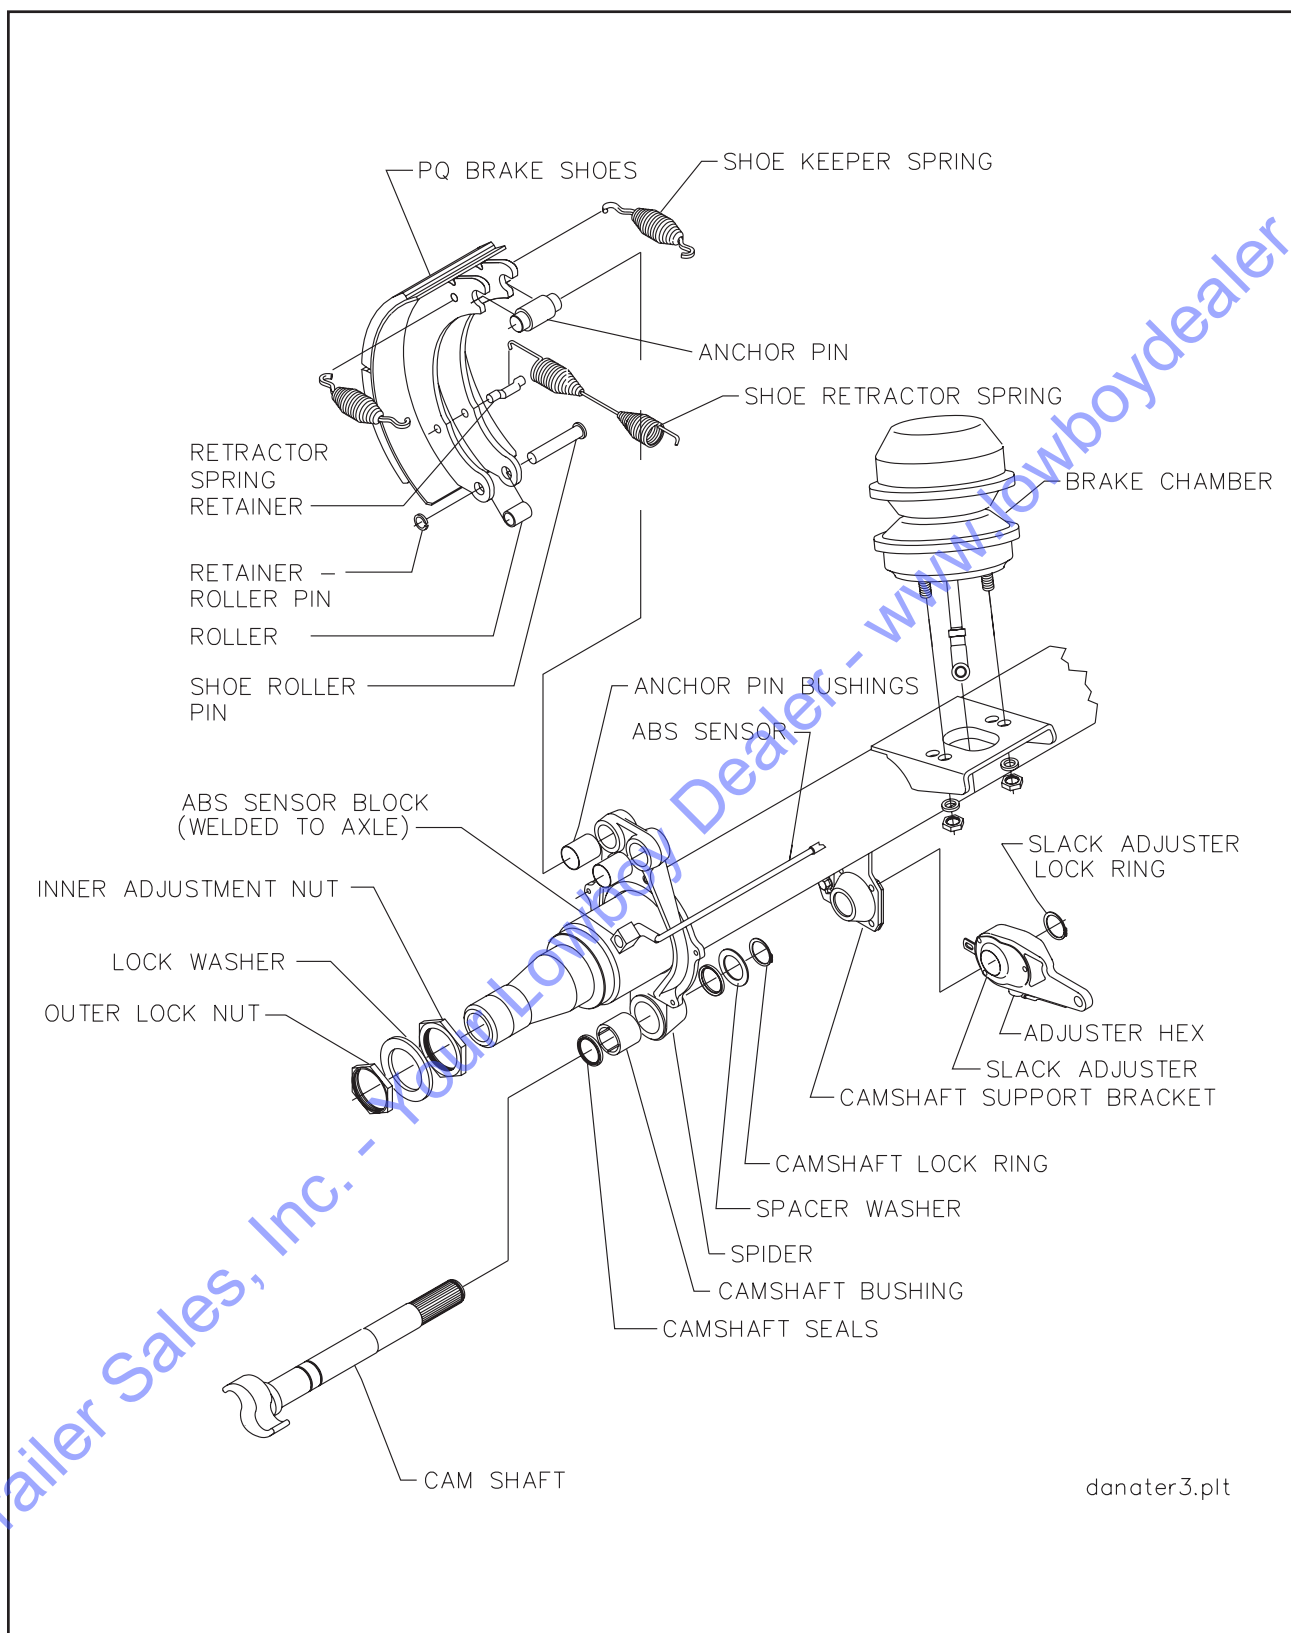

Figure 4-17 Axle and Brake Assembly
b. Disassembly for 16-1/2" x 7" Brakes (See Figure 4-17)
c. Reassembly for 16-1/2 x 7" Brakes (See Figure 4-17).